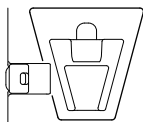
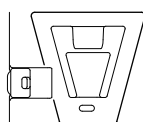

Fig. 3
Fig. 4
- You cannot join the modules together if the V edge of the recording extension module is down. (Fig. 3) Push down the recording extension module release lever of the recording extension module to raise the V edge. (Fig. 4)